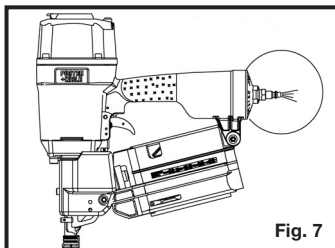

Fig. 7
11. **Connect tool to air supply hose** with a coupling that automatically removes all pressure from the tool when the coupling is disconnected. Fig. 7.
12. **Disconnect tool from air supply hose** before doing tool maintenance, clearing a jammed fastener, leaving work area, moving tool to another location, or handing the tool to another person. Fig. 7.